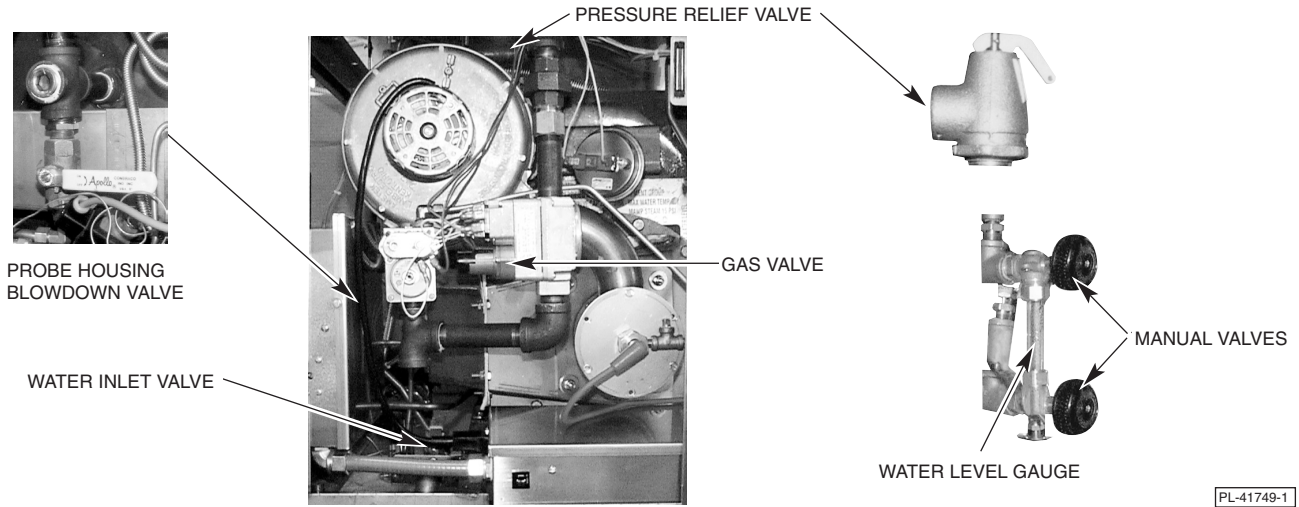

Fig. 3
- The manual valves at the top and bottom of the water level gauge (Fig. 3) must be fully open (counterclockwise).
Gas Boiler (Fig. 3)